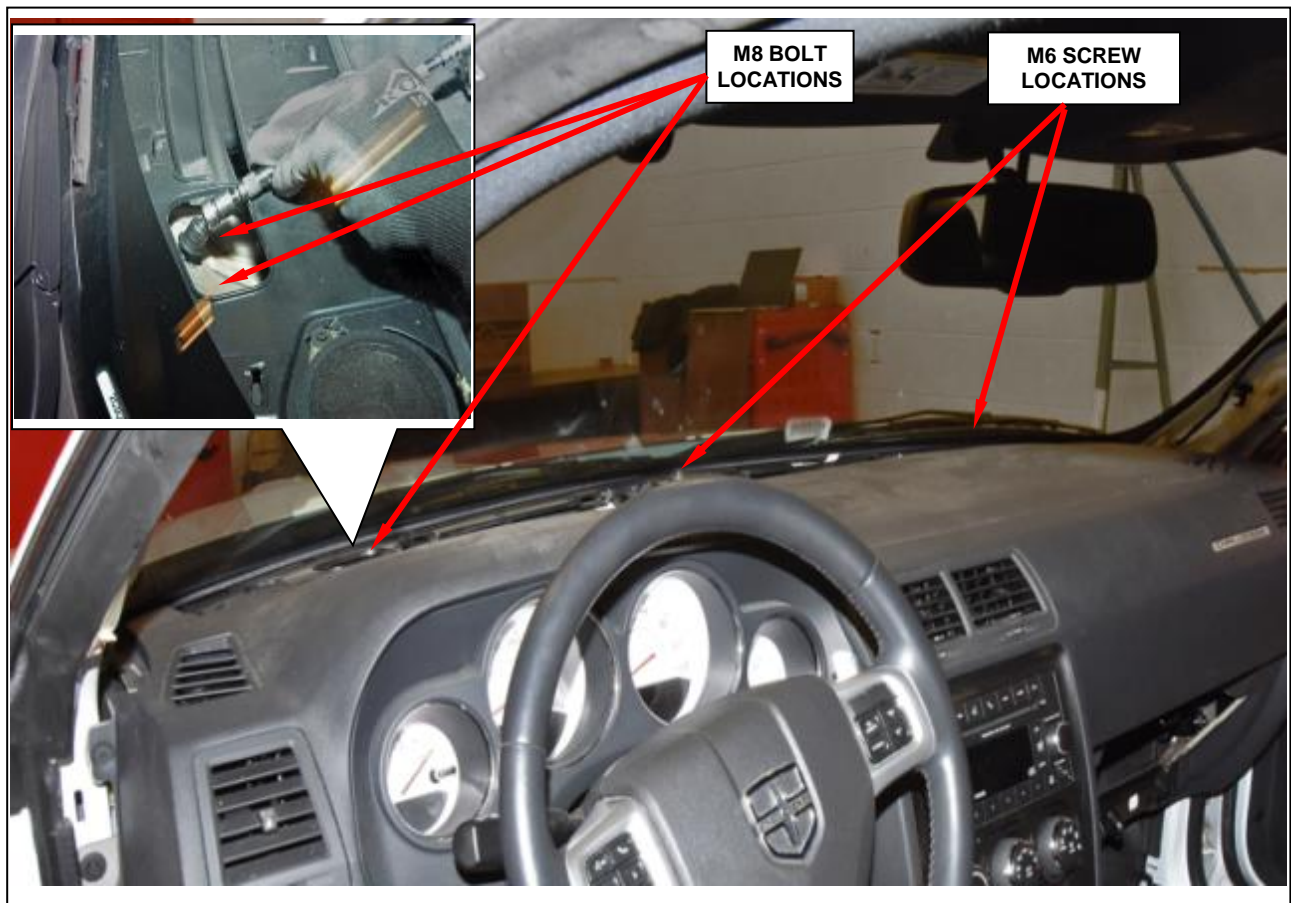

Figure 51 – Top Instrument Panel Fasteners
33. Remove the defroster grille to access the instrument panel top retaining bolts then remove and save the two M8 bolts and two M6 screws (Figure 51).